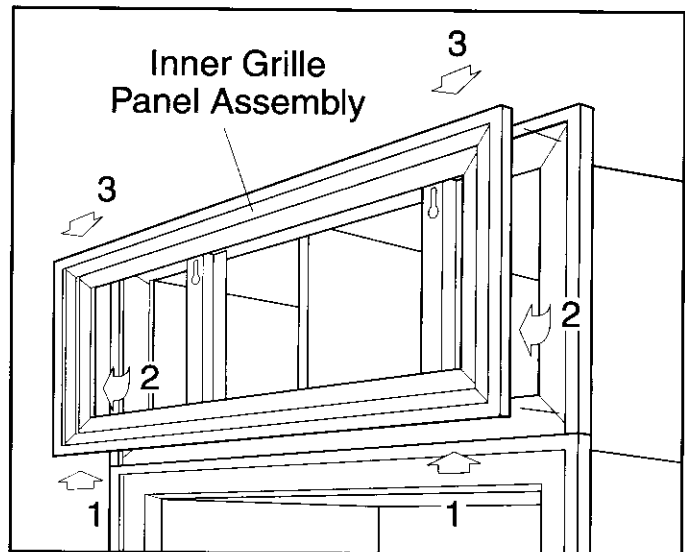

Figure 6-70. Inner Panel Grille Removal
To remove the inner grille frame, lift assembly up (1) and pull out of key-hole slots at the bottom (2). Then, pull down and out of key-hole slots at the top (3). (See Figure 6-70)